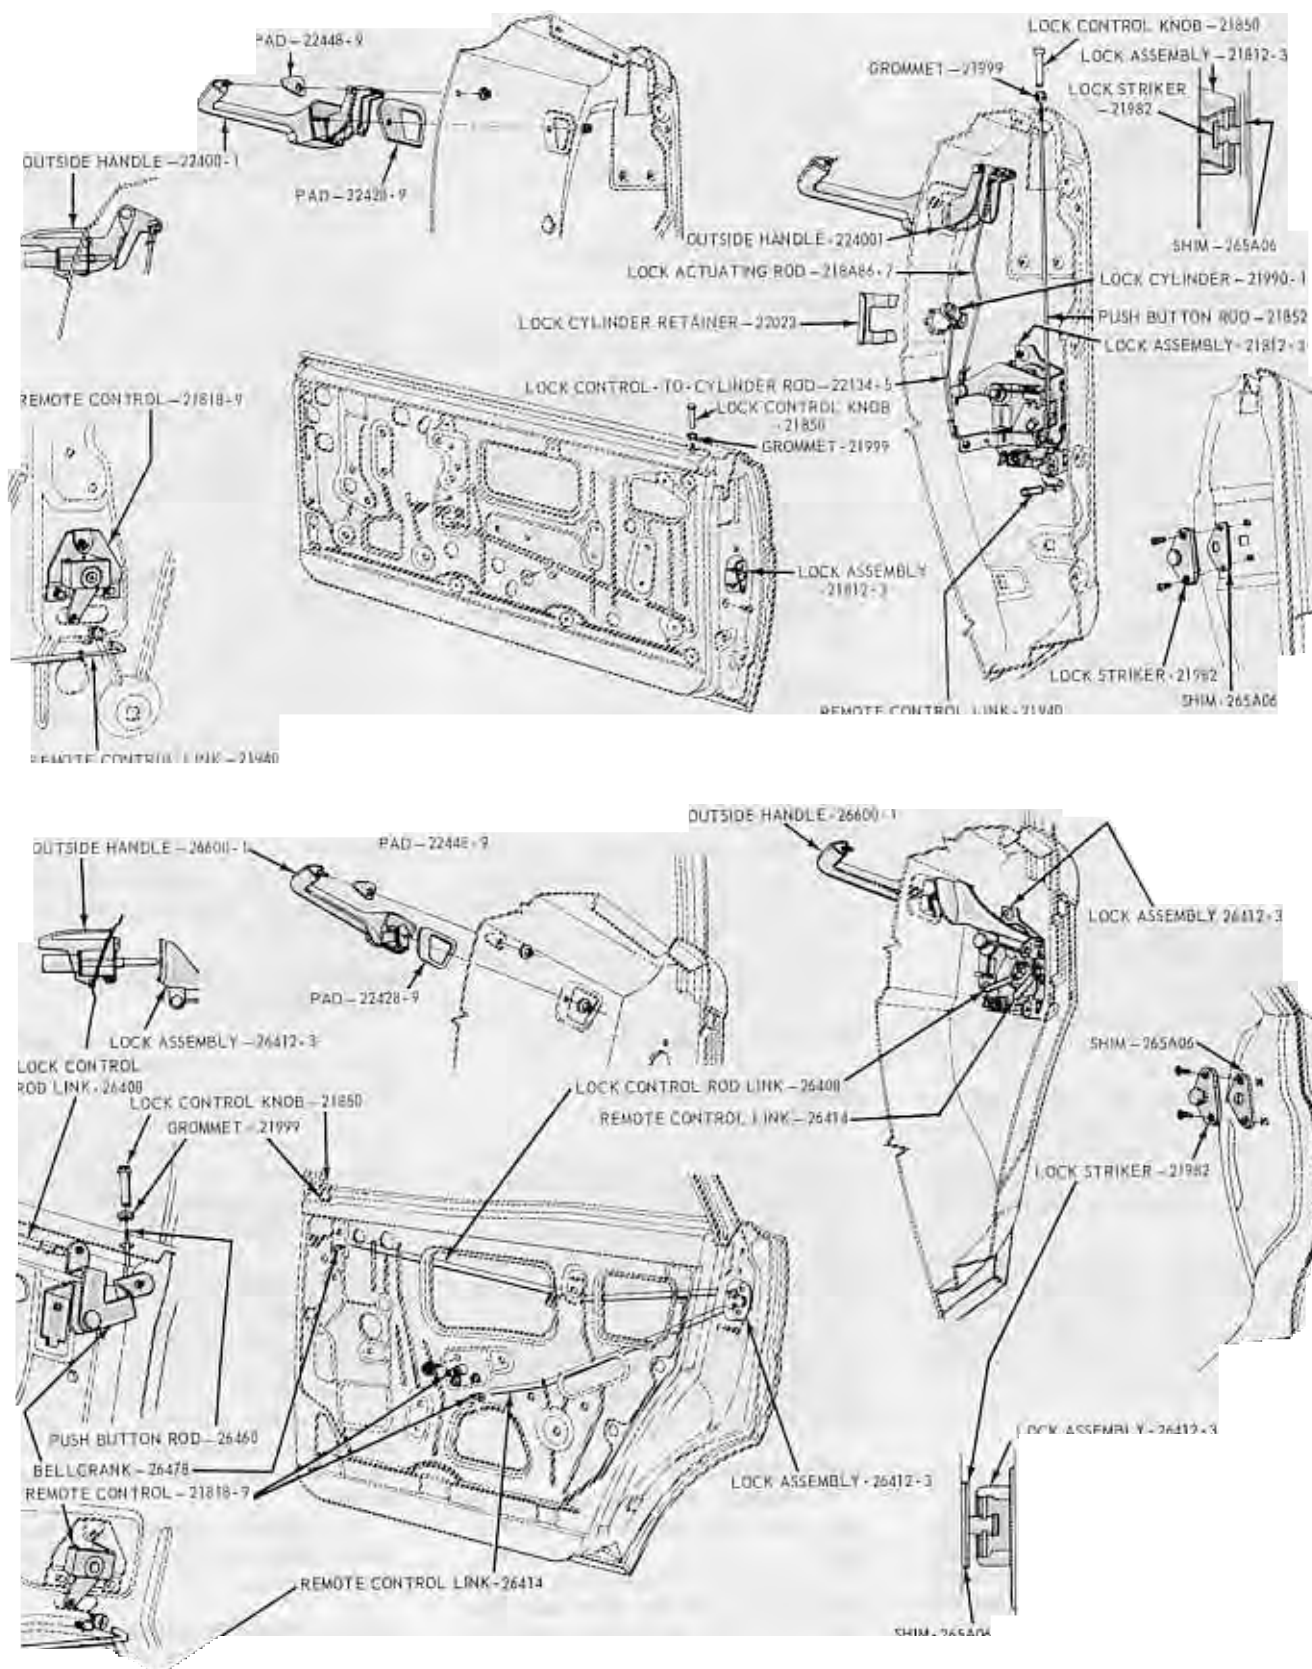

FIG. 14—Door Handle and Lock Installation
2. Disconnect the door lock remote control link, the lock actuating rod and the lock control to cylinder at the lock (Fig. 14). Remove the knob from the push button rod.
3. Disconnect the control rods from the lock assembly (Fig. 14).
3. Remove the three screws retaining the lock assembly to the door and remove the lock assembly from the door (Fig. 14)
5. Position the lock cylinder in the door, and install the lock cylinder retainer (Fig. 14).
2. Remove the handle retaining screw and nut, and remove the handle (Fig. 14). To remove the front door handle, it will be necessary to disconnect the lock actuating link.